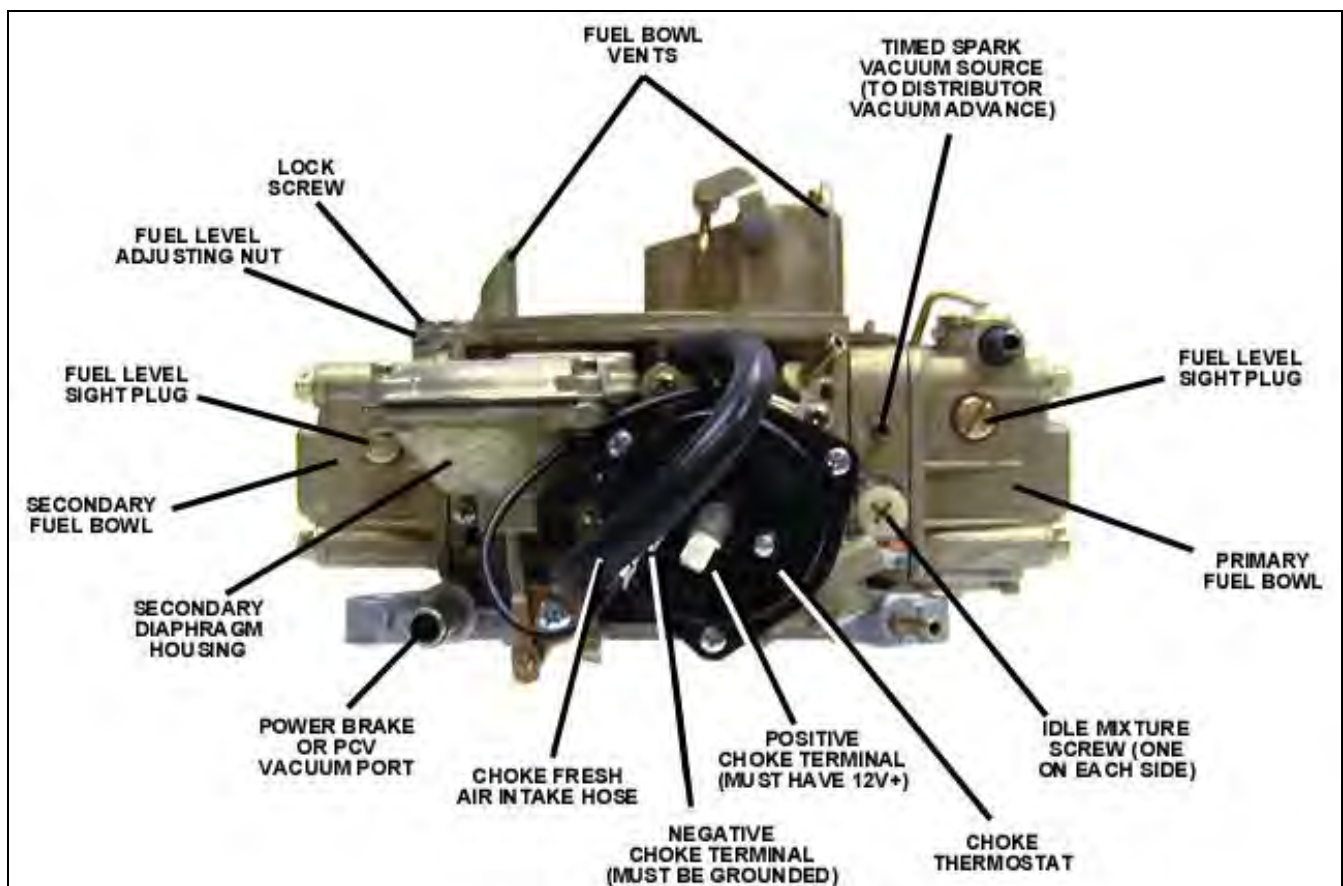

Figure 1 (0-80452 shown)
2. Take the short ground lead from the unassembled parts and connect the bayonet end to the proper terminal on the Holley electric choke cap. (See Figure 1).